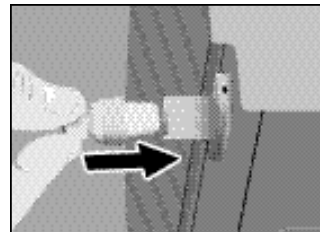

Fig.36
2. Remove the (male) quick connect fitting located inside the external water tank and attach it to the female receptacle/port at the rear of the external tank, tighten moderately. See Fig. 36